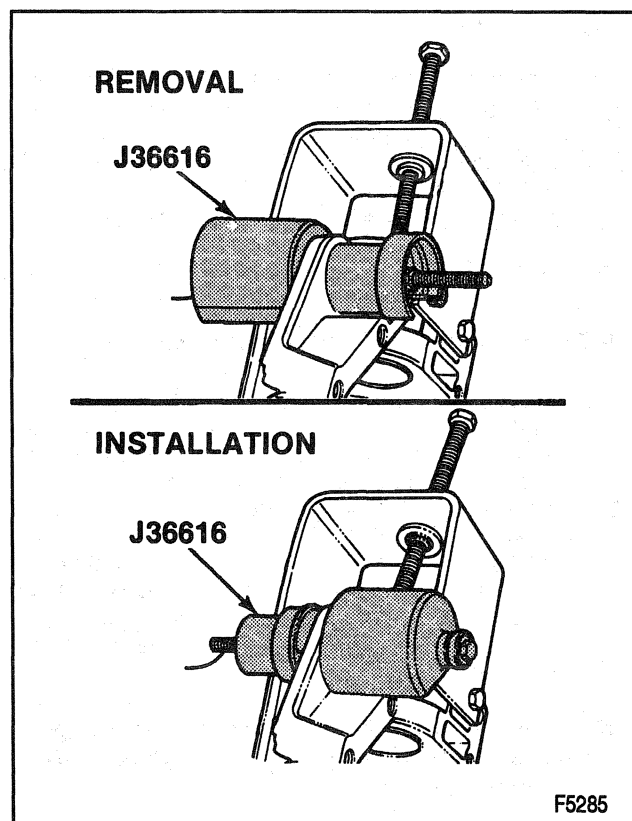

Figure 19—Removing/Installing Carrier Case Bushings
1. Carrier bushing using J 36616 (Figure 19).